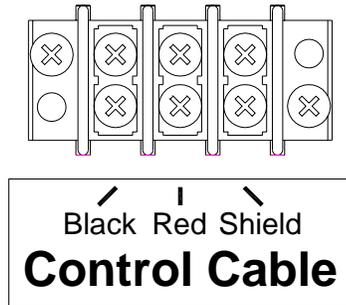

Figure 9 Control Cable Wiring Diagram
3. Connect the control cable to the **Control Cable** terminal block on the junction chassis according to Figure 9.